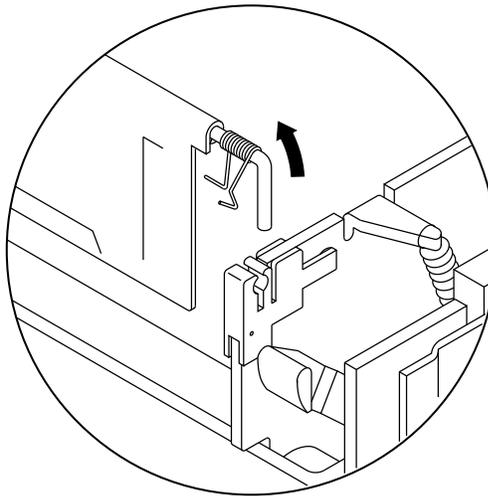

Figure 7 Removing the right hinge pin
3. Snap the right end of the hinge pin out of the right door clip as shown in Figure 7.